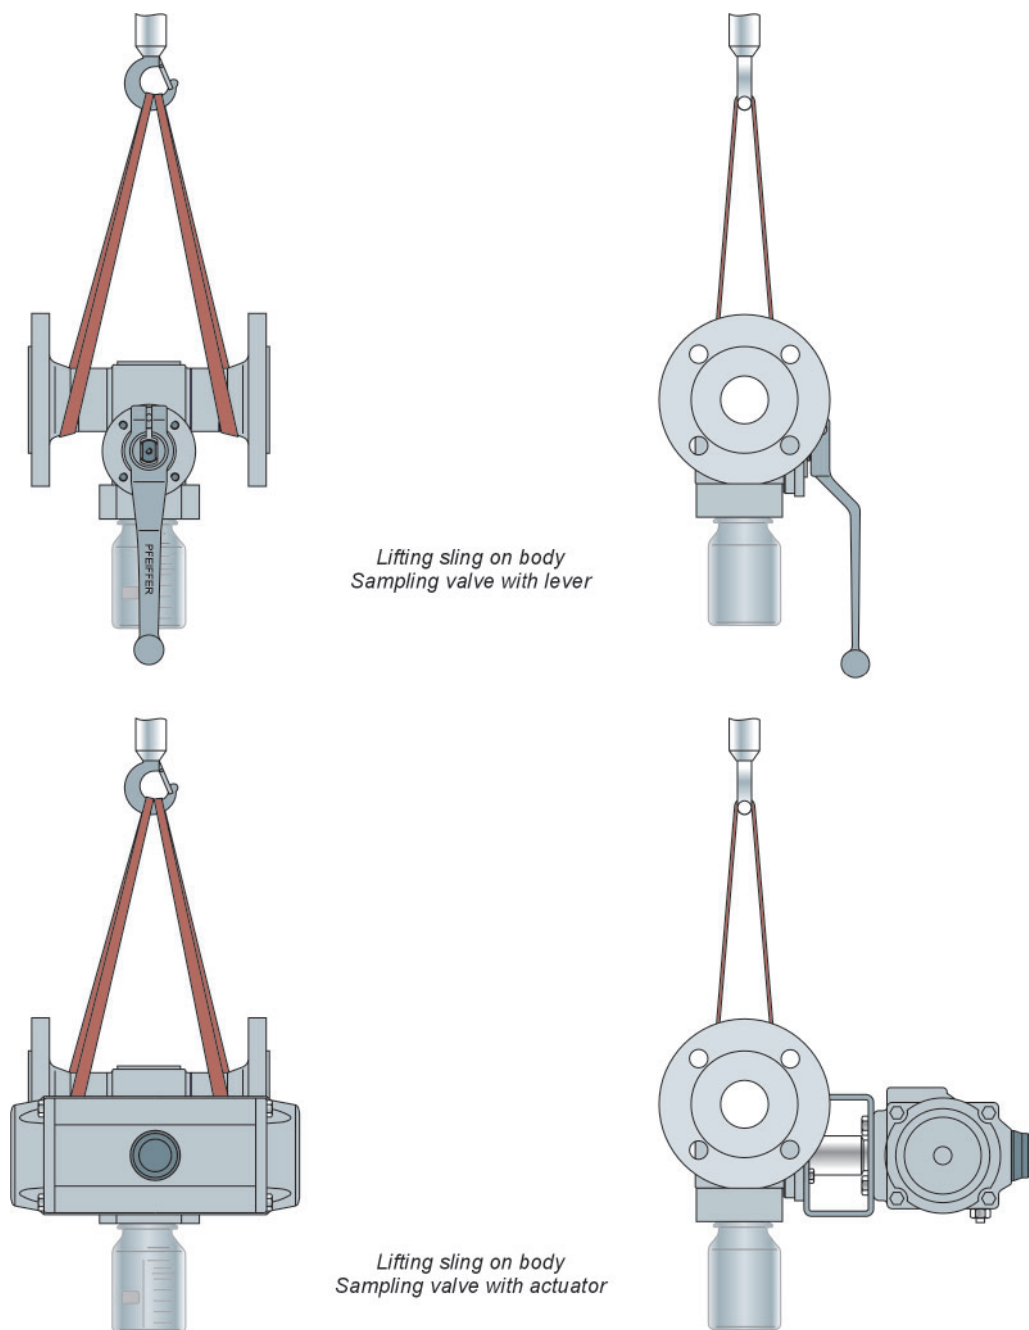

Fig. 4-1: Lifting points on the sampling valve
- ⇒ Use a hook with a safety clamp as the suspension element so that the sling cannot slip off the hook during lifting and transport, see Fig. 4-1.
- ⇒ Fasten a lifting sling to each flange of the housing and on the suspension element (e.g. hook) of the crane or forklift, see Fig. 4-1. When doing so, ensure the safety, bearing capacity and length of the lifting slings